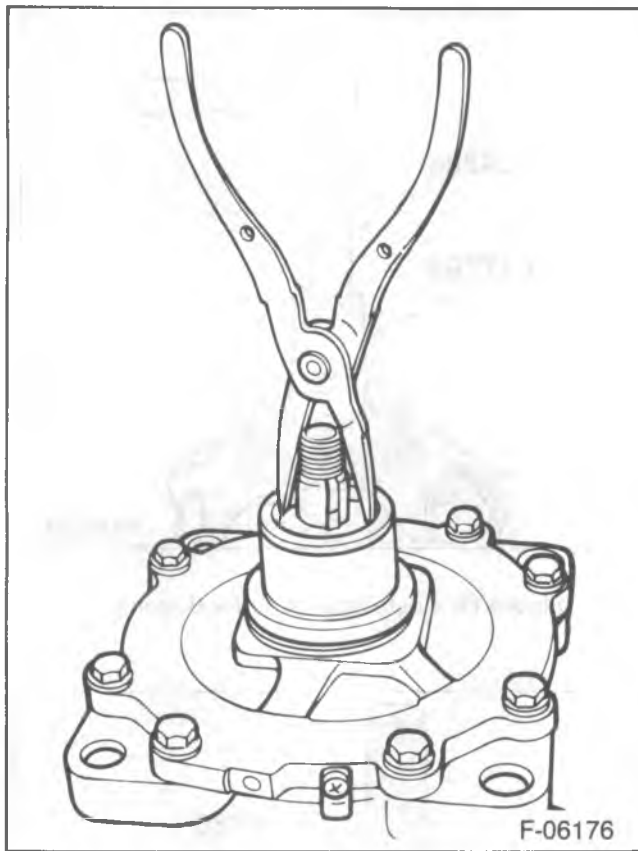

Figure 10—Removing the Felt Ring Metal Retainer
1. Clutch shims (3) using J 9553-01 and a small screwdriver.
2. Felt ring metal retainer (25).
- Insert the points of a snap ring pliers into the holes in the retainer and lift out (figure 10).